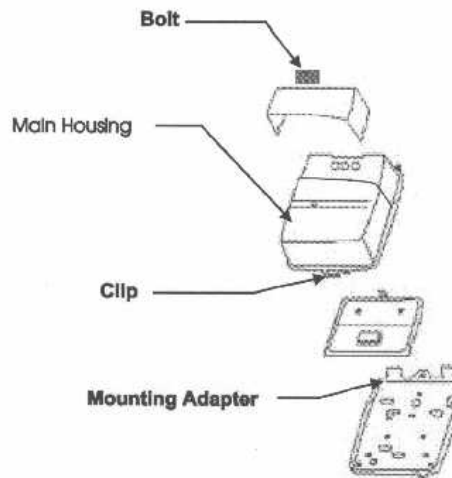

Figure 2-4. Wall MIU Exploded View
- 4 Release the Clip at the bottom of the MIU and separate the Main Housing from the Mounting Adapter (Figure 2-4.).